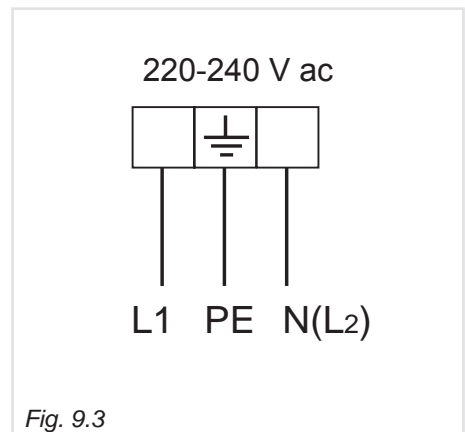

Fig. 9.3
- Connect the wires to the terminal block "B" as shown in the diagram in figure 9.3.